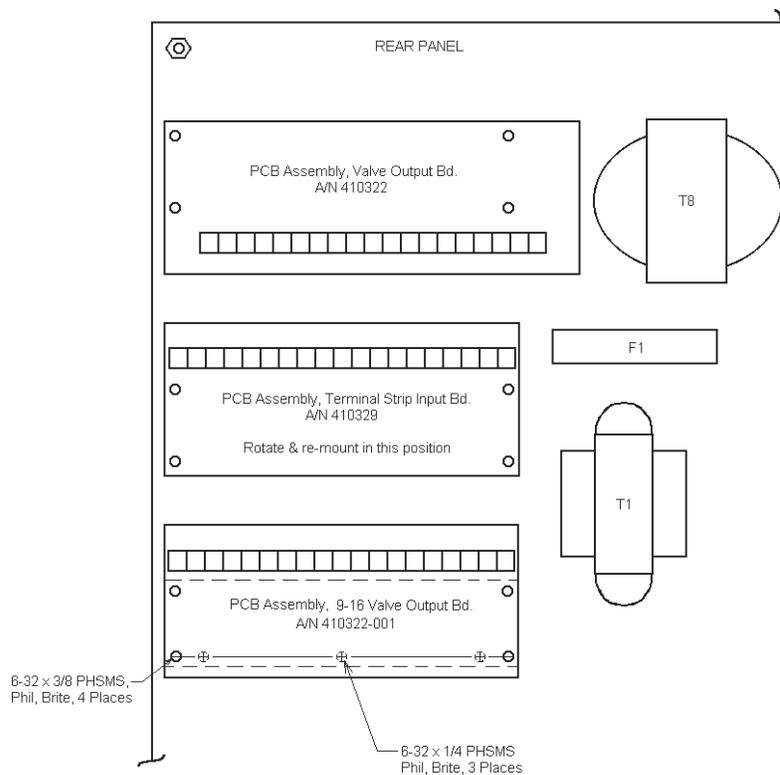

Figure C6. 9-16 Valve Extension Mounting detail for “L”, “H”, “G”, or “U” Cabinet
6. Drill and tap rear panel per Figure C6, be sure to vacuum or otherwise remove ALL metal chips before adding Mounting Plate (A/N 510236) to rear panel using 3 ea. 6-32 x 1/4 PHSMS, Phil Brite. Add extra spacer (P/N 555031) to each existing spacer (4 places) to offset PCB 1" from panel.
7. Mount 9-16 Valve Extension PCB (A/N 410322-001) to bracket (P/N 510236) using four (4) 6-32 x 3/8 PHSMS, Phil., Brite. See Figure C6.